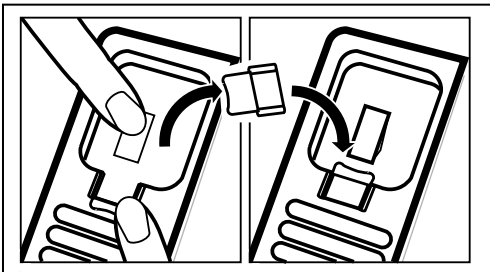

Figure 5 - Reversing the Hook
1. Pull the handset hook out as shown in Figure 5 and reverse its position so that the hook points up and will hold the handset when you hang up.